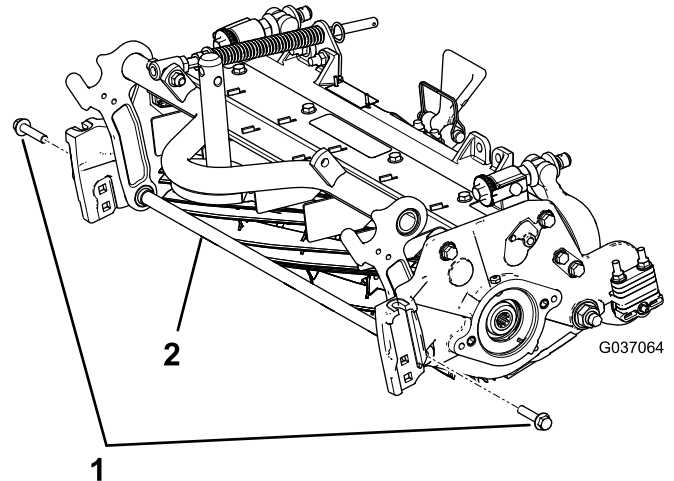

Figure 4
- A. Remove the 2 flange-head bolts securing the support rod, and remove the support rod (Figure 4).